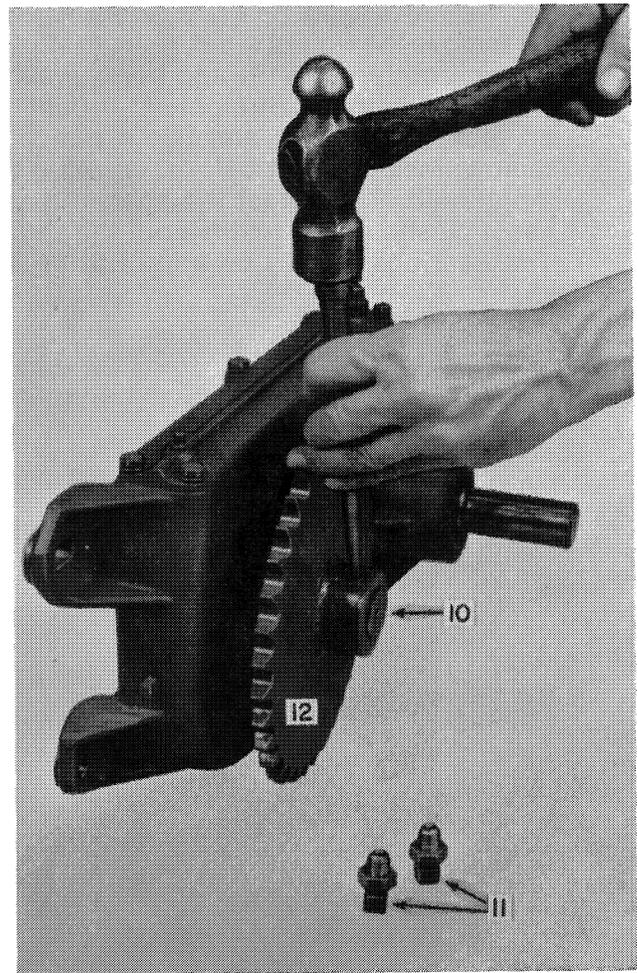
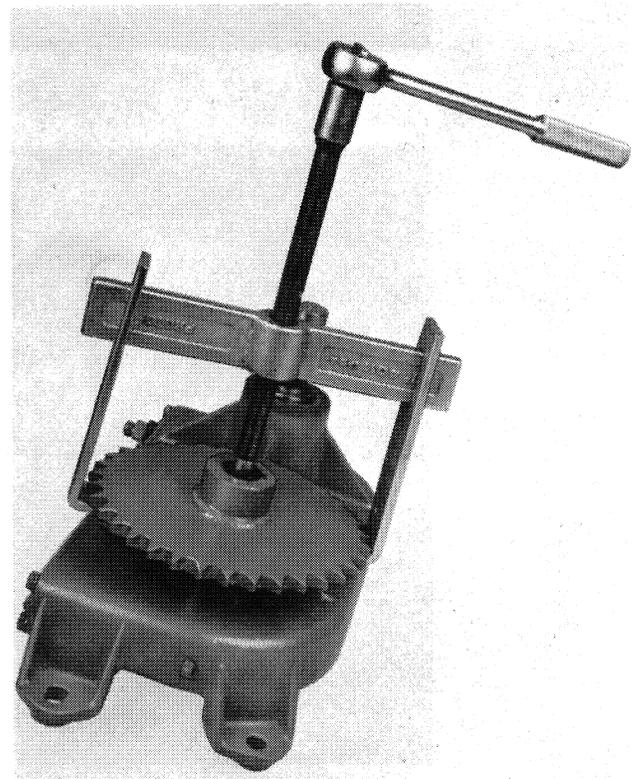

FIGURE 8
FIGURE 9
If the sprocket is to be pulled, peen down the shaft to remove marks left by the set screws (11). See Figure 8. The sprocket can be pulled with a heavy-duty gear puller, Figure 9.